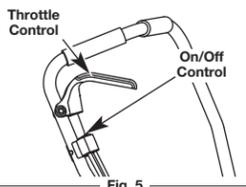

Fig. 5
NOTE: There is no need to turn the unit on. The On/Off Control is in the **ON (I)** position at all times (Fig. 5).
2. Press and hold the On/Off Control in the **OFF (O)** position until the unit comes to a complete stop. (Fig. 5)